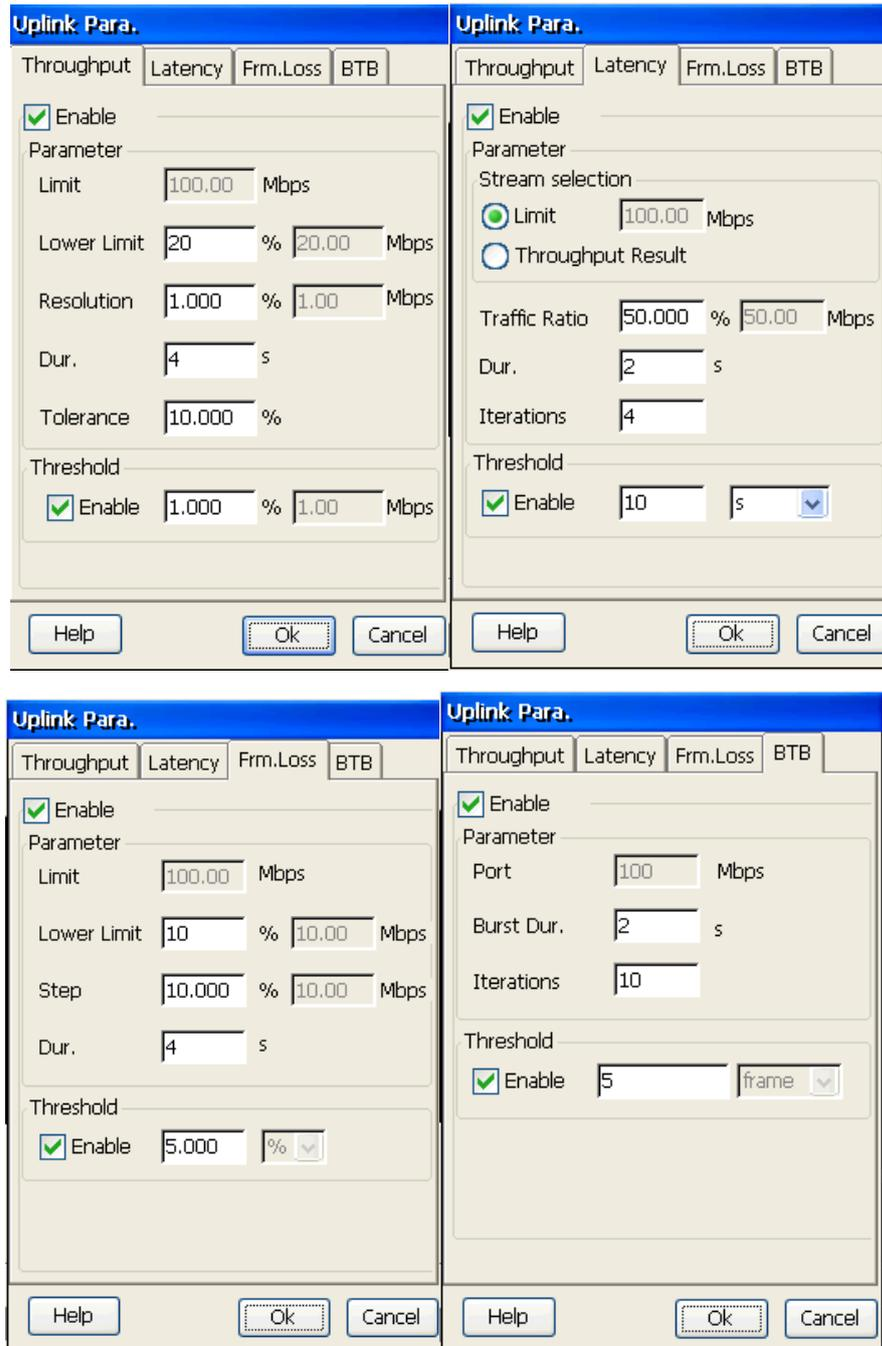

Figure 6.1.3 Uplink Parameters Setting
**Step3:** Set RFC 2544 test parameters, as is shown in figure 6.1.3. And VLAN and MPLS parameters must be set in port parameters setting box.